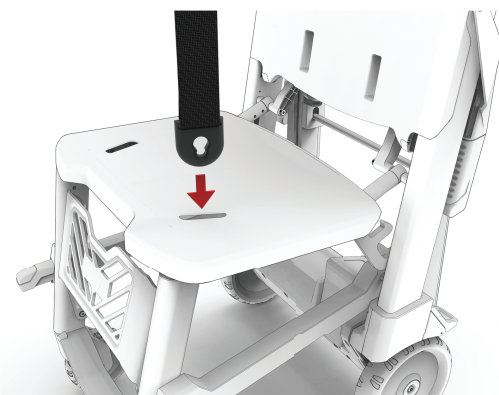
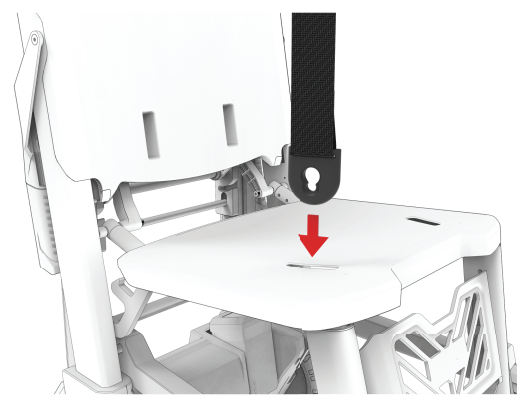

Figure 16 – Seat clip, patient left
Figure 17 – Seat clip, patient right
1. With the patient right restraint strap, insert the patient right seat clip through the patient right hole in the seat pan (Figure 16 and Figure 17).